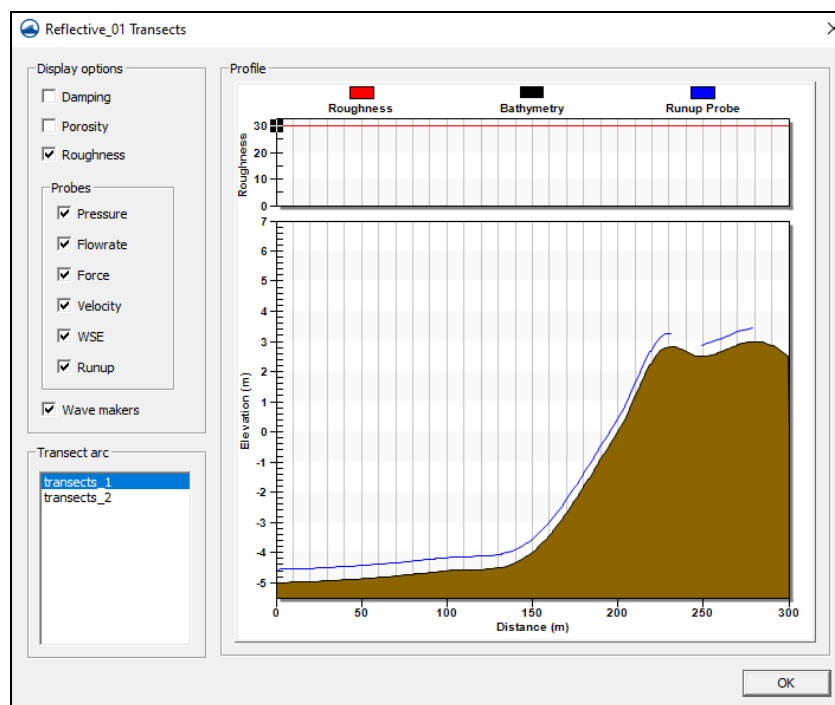

Figure 5 The Reflective_01 Transects dialog
5. Right-click “ Reflective_01” and select **View transects profile...** to bring up the *Reflective_01 Transects* dialog (Figure 5).